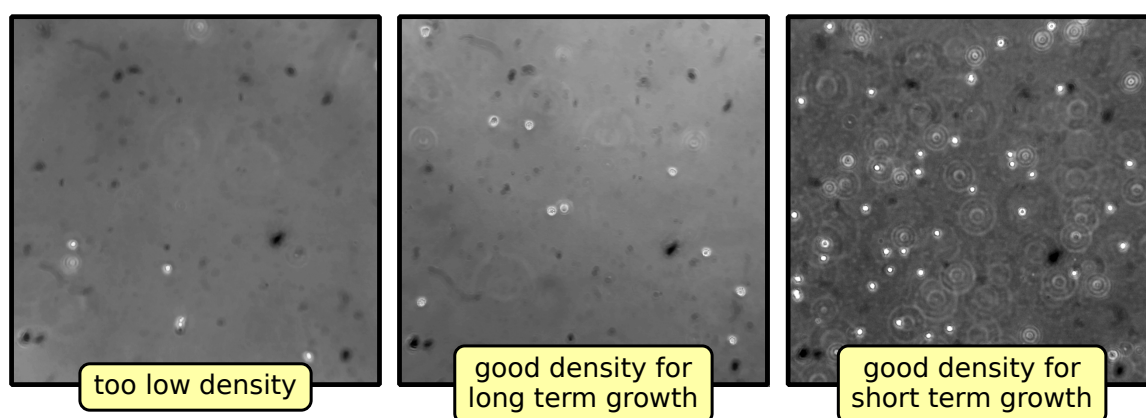
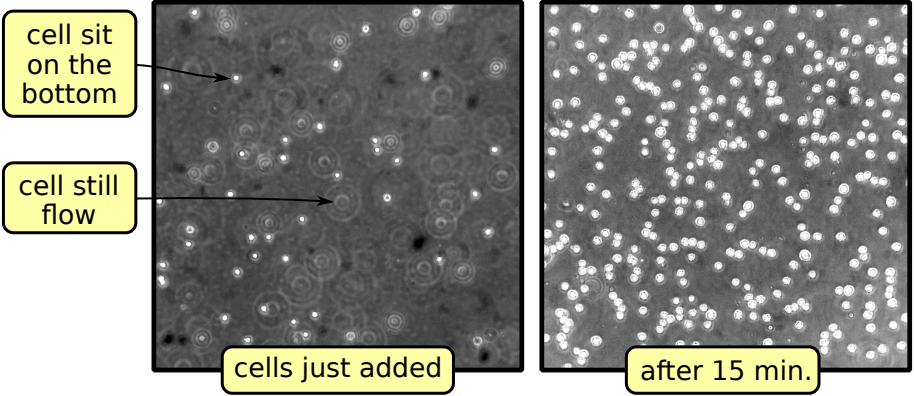

Fig. 4.5. HEK-293 cells recently placed into the new container
Fig. 4.6. Checking HEK-293 cells density right after adding cells and after 15 min.
- 2.29. Look at the container in the microscope to check cells. The example of different density is shown on fig. 4.5. Note that you need to count cells that sit on the bottom and the still flowing ones. Alternatively, you may place the container to the incubator for 15 min. and then check it again, see fig. 4.6. HEK-293 cells with very low density don't feel well. In this case you may add more suspension with cells as described above.